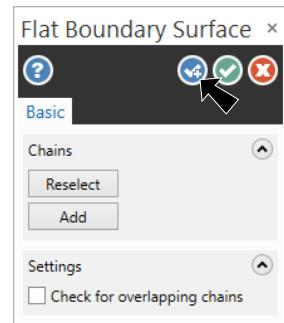

Fig. 21
Step 7. In Flat Boundary Surface function panel click **OK** and **Create New Operation**  , Fig. 21.
Step 12. In Flat Boundary Surface function panel click **OK** and **Create New Operation**  , Fig. 21.